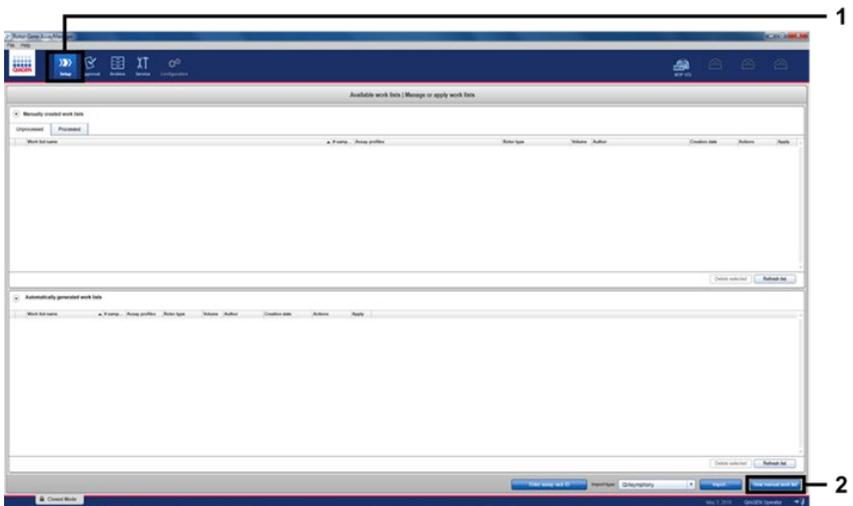

Figure 6. Setting up new manual work list. 1 = Select “Setup” environment, 2 = “New manual work list”.
2. The Setup environment appears by default. Click **New manual work list** to create a new work list (Figure 6).